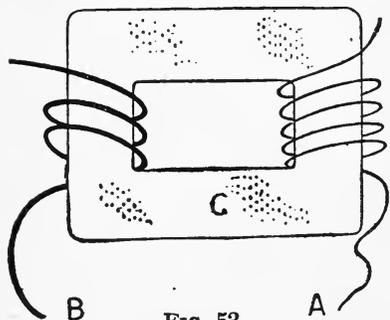

FIG. 53.
laminated cores composed of thin soft sheet-iron of such a shape that the magnetic circuit is closed. Upon this core (C in fig. 53) there are two coils: the primary (A) which receives the alternate current, and the secondary (B) which gives out the transformed current. The primary